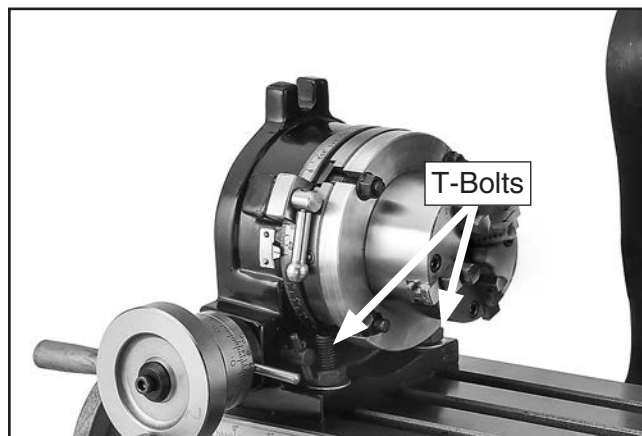

Figure 12. Example of rotary table mounted in vertical position using T-bolts, flat washers, and hex nuts.
3. Install rotary table in vertical position on (2) T-bolts (see **Figure 12**).
4. Install (1) flat washer and (1) hex nut on each T-bolt (see **Figure 12**), then tighten securely. Holding table rigid will help with accuracy, efficiency, and general safety.